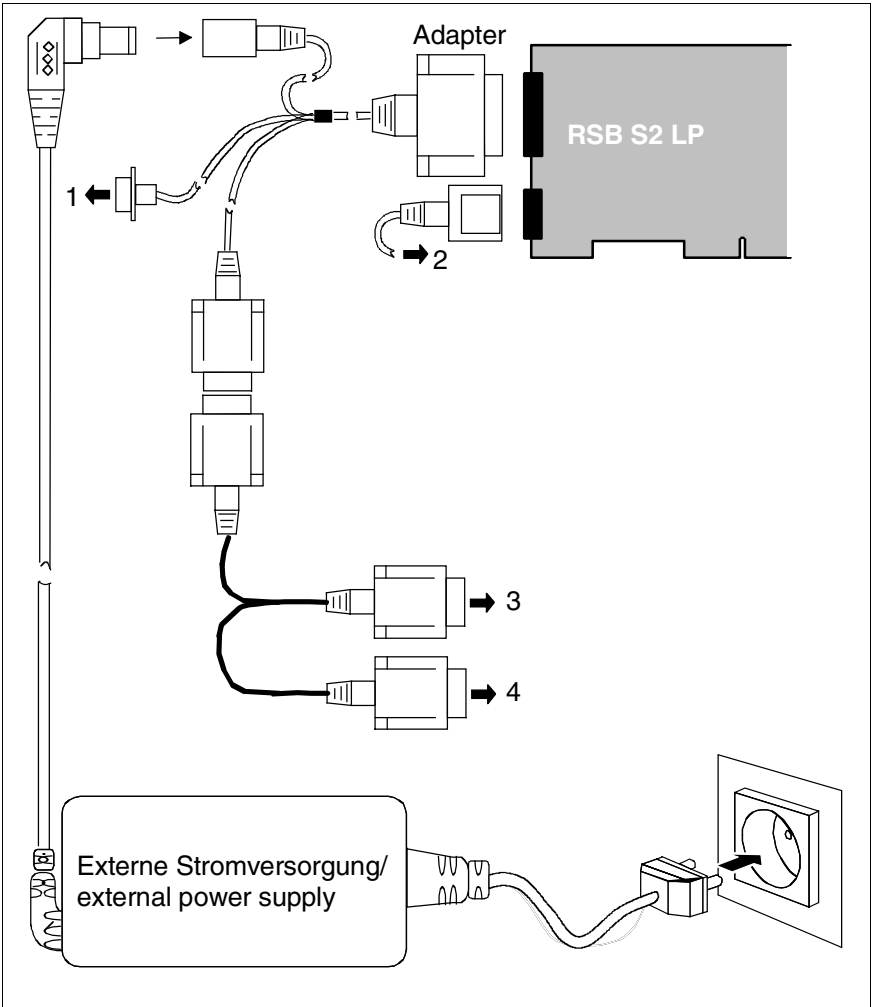

Figure 27: Connecting external cables
- ▶ Connect the external cables and the external power supply as shown in figure 27 on page 37.